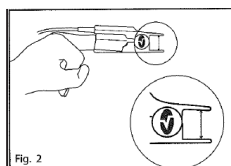

Fig. 2
2. The hinged tabs of the sensor should open to evenly distribute the grip of the sensor along the length of the finger. Check position of sensor to verify correct positioning. Complete coverage of the detector window is needed to ensure accurate data (Fig. 2 of 5).